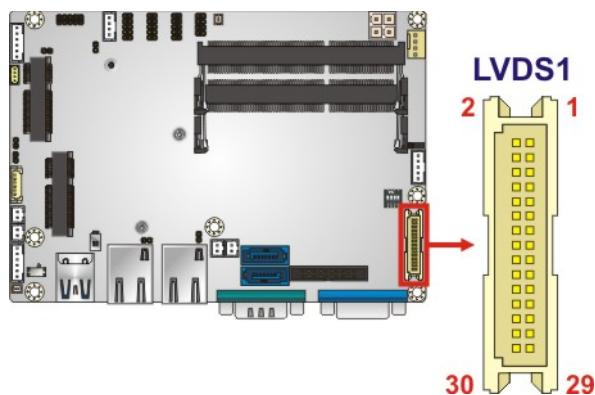

Figure 3-16: LVDS Connector Location
**CN Location:** See Figure 3-16